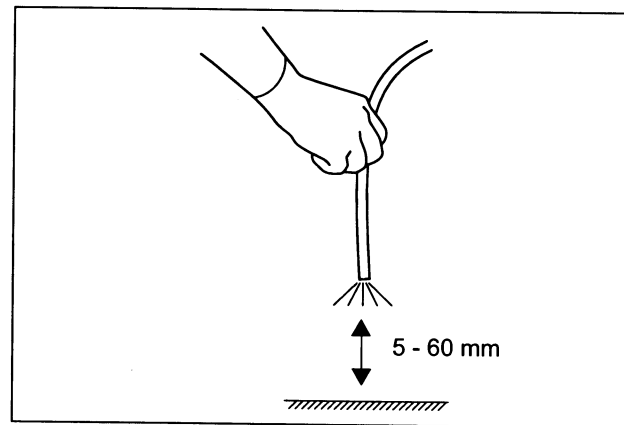

Figure 3.8
2. Point the distal end of the endoscope at a suitable object and vary the distance between 5 and 60 mm (see Figure 3.8). Confirm that the light being emitted from the distal end varies with the distance.